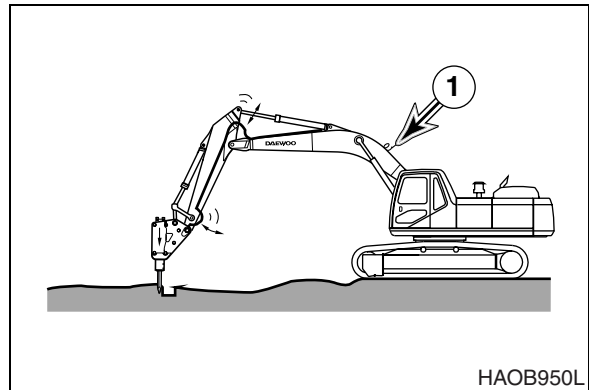

Figure 73
- Do not use the breaker if the hydraulic hoses vibrate excessively. See Figure 73. Check the breaker's hydraulic accumulator (1) for damage and repair as required. If excavator is operated under this condition, structural and hydraulic components can be damaged.